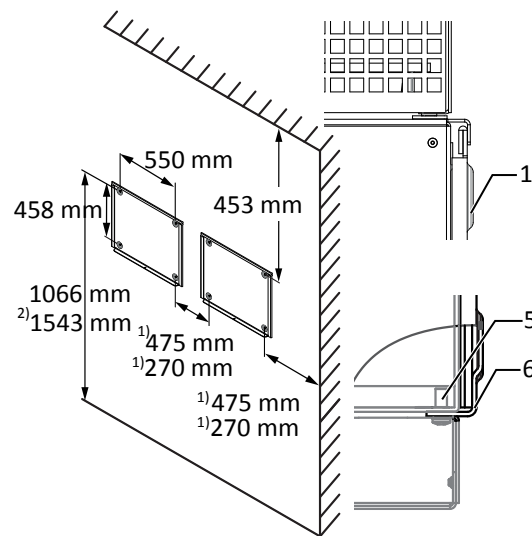

Fig. 17: Wall mounting
- Minimum clearances to be observed during installation: [See figure 17] [▶ Page 18]
2 Fit the device onto the upper mount by means of the mounting bracket. Fit the device onto the lower mounting bracket in full so that the device sits flush with its rear side on the mount ([See figure 17] ▶ Page 18]).